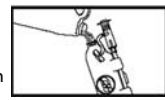

Figure 8
4. Add cleaning solution (Figure 8). See manufacturer's instructions for information on specifications and proper use of cleaning solution.